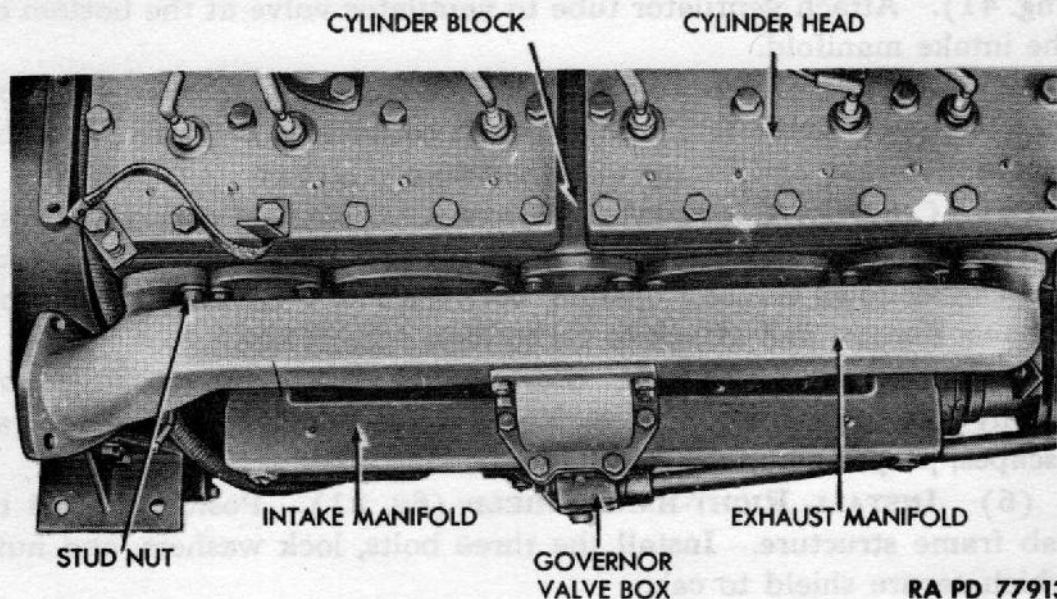

Figure 25 — Engine Manifolds Installed
(6) **DETACH GOVERNOR VALVE BOX** (fig. 25). Remove the two cap screws which secure the valve box to intake manifold. Pull valve box, gasket, and attached carburetor free of intake manifold.
(9) **REMOVE MANIFOLDS AND GASKETS** (fig. 25). Remove the 14 stud nuts and flat washers which hold the intake and exhaust manifolds to the cylinder block, and remove manifolds through cab skirt opening. Remove the seven gaskets from the manifolds or from engine block.
(1) **ATTACH GASKETS AND MANIFOLD TO CYLINDER BLOCK, AND CONNECT EXHAUST PIPE** (figs. 25 and 87). Use seven new gaskets. Through the engine inspection plate opening, slide end of exhaust manifold over exhaust pipe, and fit manifolds in position to the engine block. Secure manifolds to block with the six stud nuts and flat washers. Connect exhaust pipe to manifold (par. 72 c (3)).
b. **Drain Radiator and Cylinder Block.** Open drain cocks at base of radiator outlet elbow and in left side of cylinder block (fig. 25). **NOTE:** *If cooling system contains antifreeze, use suitable containers to save it.*